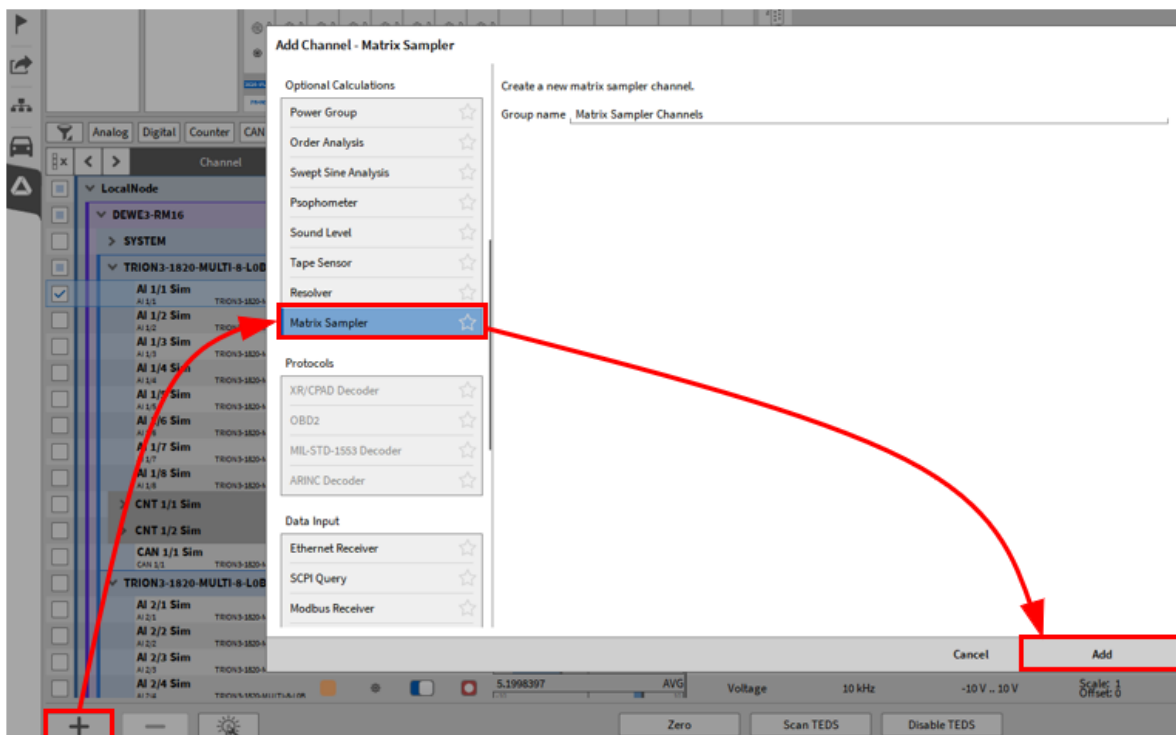

Fig. 7.156: Creation of a Matrix Sampler channel from channels in the channel list
1. Select at least one channel which should be used as reference channel (X, Y and input channel Z) in this order (channels can also be changed afterwards). Click on the + button in the lower left corner, select *Matrix Sampler* in the list and click on the *Add* button (see Fig. 7.156).